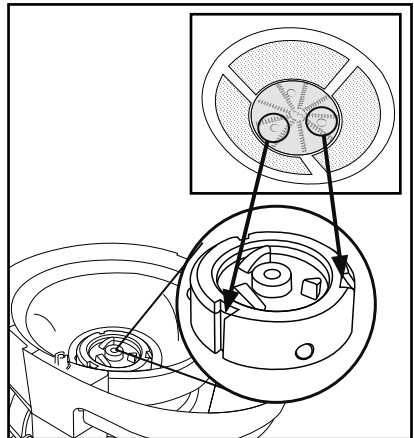

Fig. 2
- 3) Place the filter **4** on the drive shaft **13**. You need to align the filter **4** correctly so that it engages in the matching mounts on the drive shaft **13** (see Fig. 2). For alignment, note the 3 round markings between the cutting blades and the guide rails/recesses on the drive shaft **13** – these must point towards each other when inserting, otherwise you will not be able to fit the filter. The filter **4** must audibly click into place and be firmly seated before you continue with the assembly!